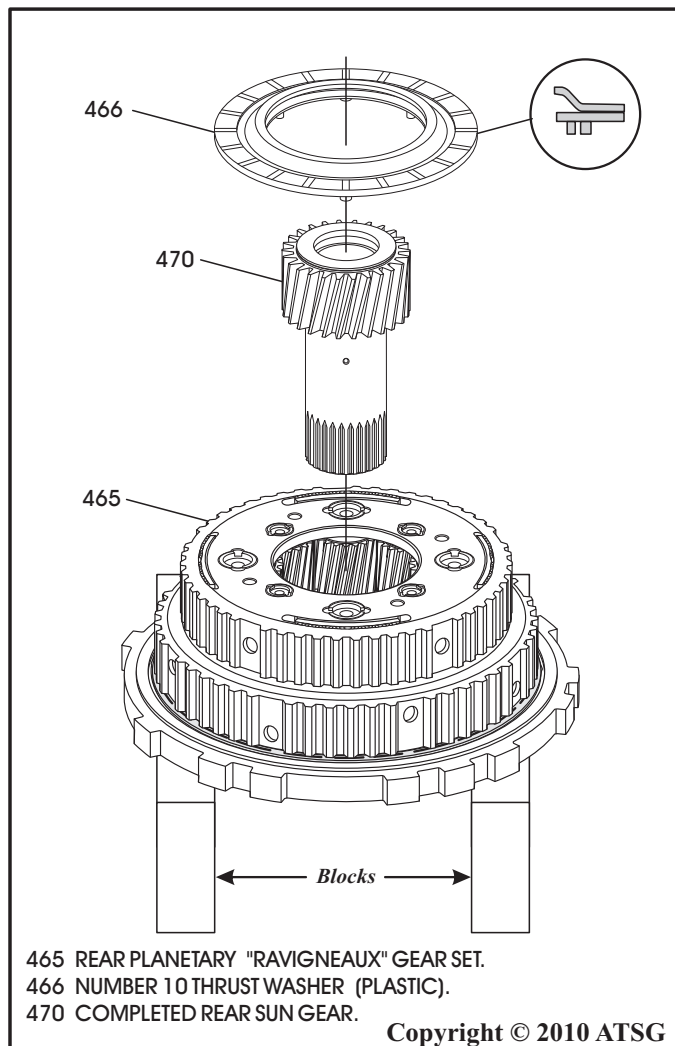

Figure 135
12. Install the completed sun gear assembly into rear planetary carrier, as shown in Figure 135, by rotating into position.